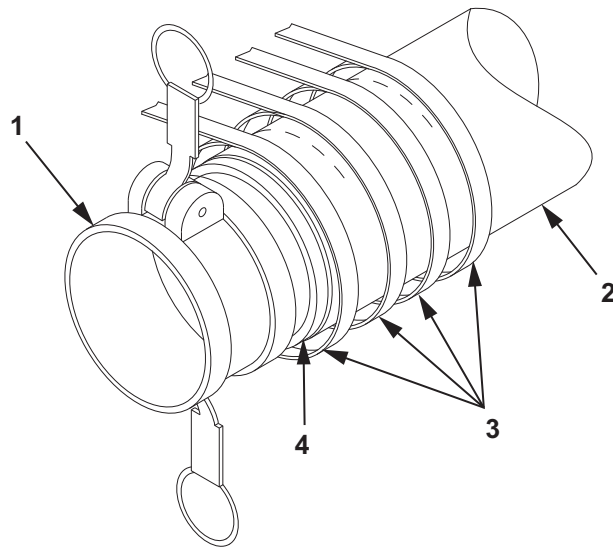

Figure 4. 4 X 10 Ft Suction Hose Assembly Repair.
10. Place four clamps (Figure 4, Item 3) loosely on the hose assembly (Figure 4, Item 2).
11. Install female coupling half or male coupling half (Figure 4, Item 1) into hose assembly (Figure 4, Item 2) until it is flush with the machined stop (Figure 4, Item 4).